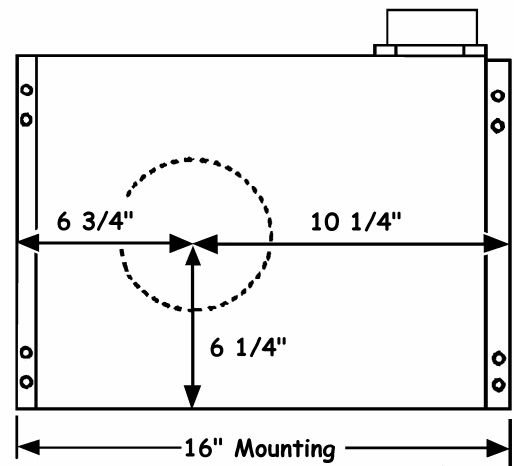

Figure 4
- 1) Locate site for GP500 mounting. Use the diagram in Figure 4 to assist in locating the inlet hole for the unit.